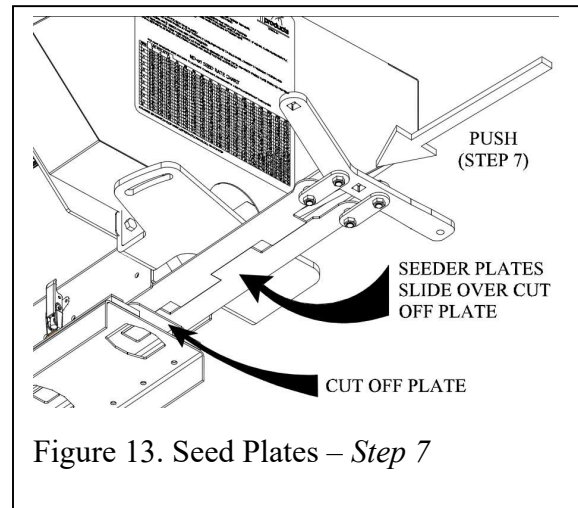

Figure 13. Seed Plates – Step 7
- Take seed plate assembly and slide back into machine; be sure to put seed plates on top of cut off plate when starting to push them into the machine as shown in Figure 13.